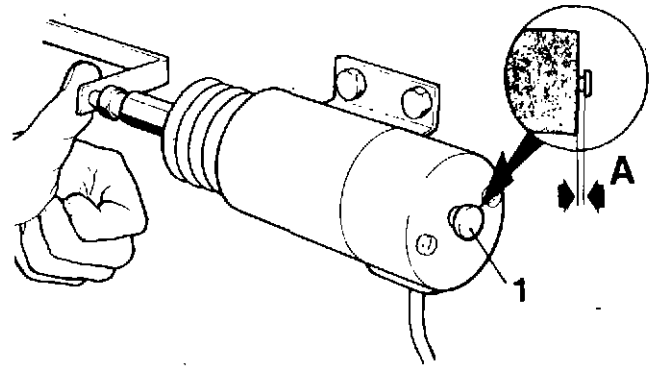

Fig. 31. Checking the contact gap, SEM-stop solenoid
2. Push the solenoid pull rod in by hand and check that the stop position indicator (the pin) 1, fig. 31 at the rear end of the solenoid protrudes 1,5–2 mm (0.06–0,08") when the pull rod is pushed back fully.